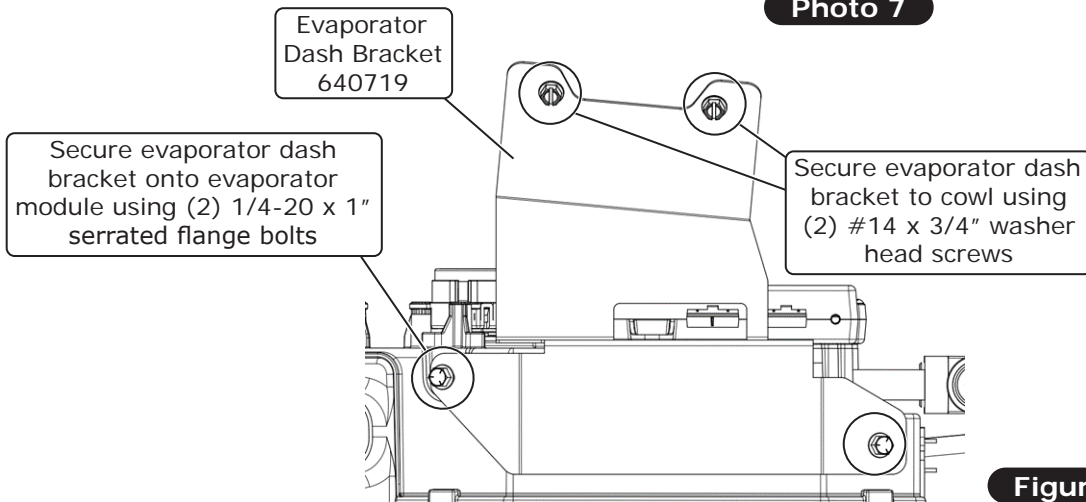

Figure 1
6. Install (2) 1/4-20 well nuts onto the evaporator module (See Photo 7, below).
7. Position the evaporator dash bracket under the glove box door mounting holes, then secure it onto the evaporator module using (2) 1/4-20 x 1" serrated flange bolts (See Figure 1, below).
8. Make sure that module is level front to back and side to side. Secure the evaporator dash bracket to the cowl using (2) #14 x 3/4" washer head screws (See Figure 1, below).
1. Install (4) S-clips onto the center louver hose adapter as shown in Figure 1, below.
2. Install the center louver hose adapter onto the center louver assembly (See Figure 1, below).